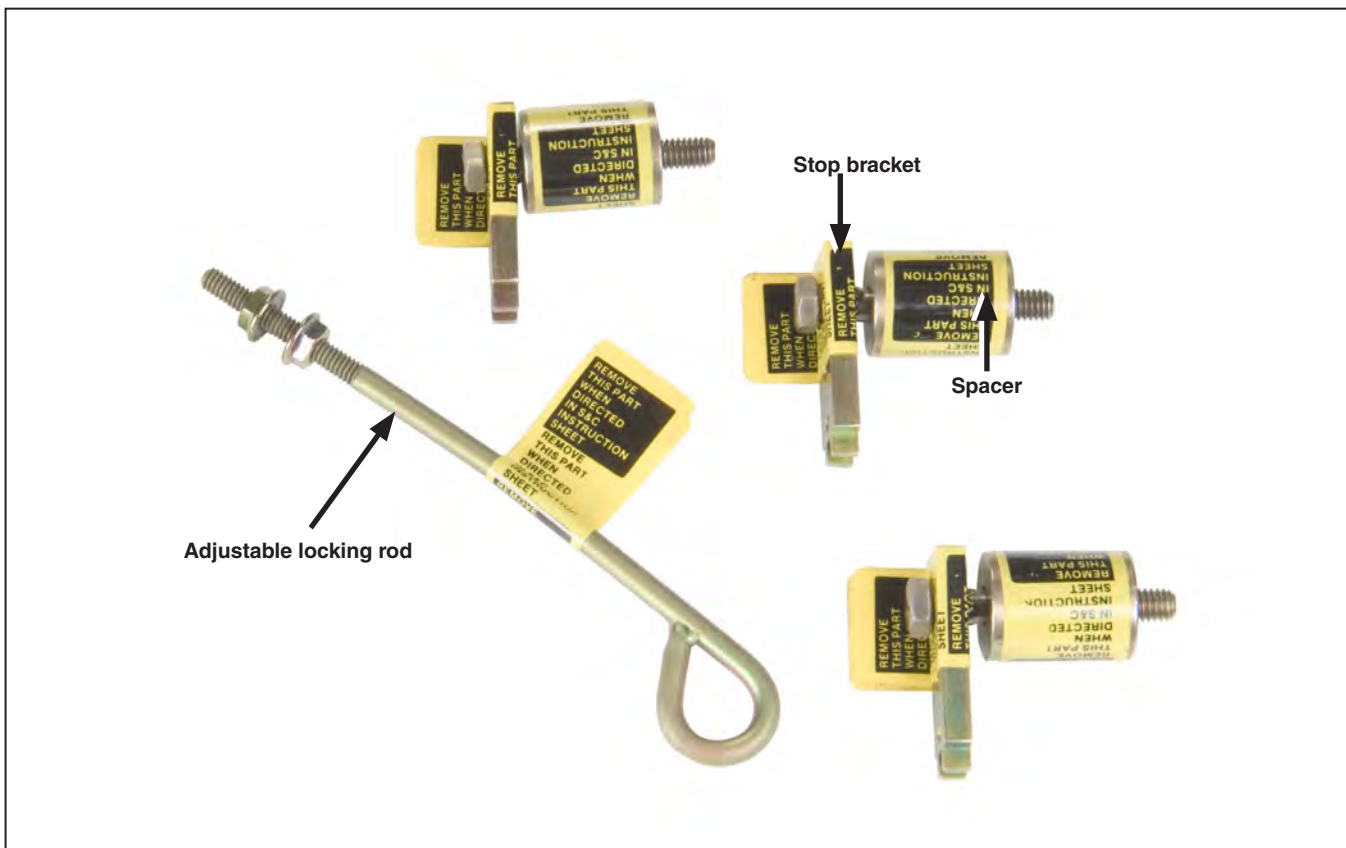
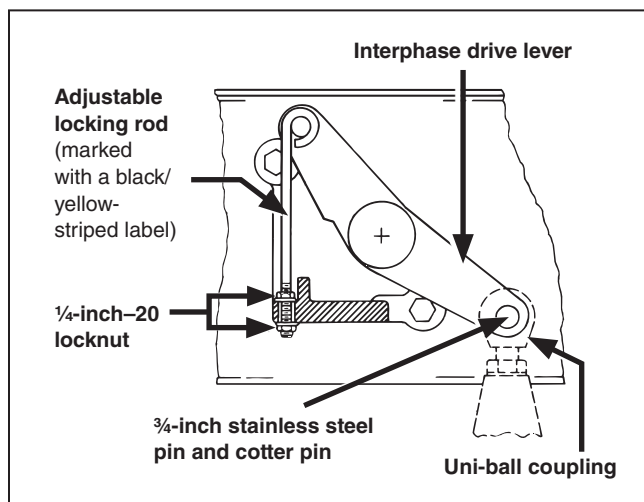

Figure 19. Check the transition box and high-speed base for these.
Figure 21. Make sure the interphase drive lever has been connected to the uni-ball coupling and the adjustable locking rod has been removed.
- The interrupter stop bracket and spacer have been removed (see Figure 19)
- The interphase drive lever has been connected to the operator uni-ball coupling (see Figure 21 on page 23)
- The adjustable locking rod attached to the interphase drive lever has been removed (see Figure 19 and Figure 21 on page 23)